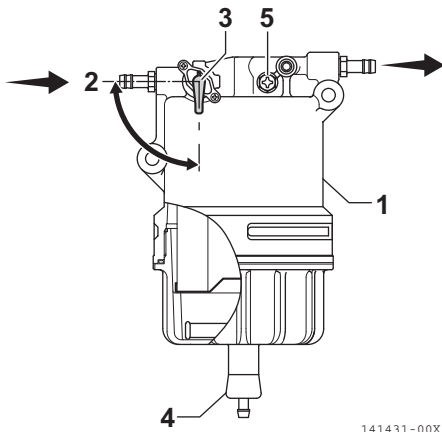

Figure 18
1. Position an approved container under the cup (1, **Figure 18**) of the water separator to collect the contaminants.
2. Close (2, **Figure 18**) the fuel valve (3, **Figure 18**).
3. Loosen the drain valve (4, **Figure 18**) and drain the contaminants. *See Drain water separator on page 82.*
4. Turn the cup (1, **Figure 18**) to the left (10, **Figure 18**) and remove the cup (1, **Figure 18**). If equipped, disconnect the sensor wire from the cup before removing the cup.
6. Remove the float ring (8, **Figure 18**) from the cup. Pour the contaminants into the container and dispose of it properly.
7. Clean the element (9, **Figure 18**) and inside cup. Replace the element if it is damaged.
11. Install the cup to the body by tightening the cup to the right (6, **Figure 18**) to 18 - 22 N·m (1.8 - 2.2 kgf·m).
13. Open the fuel valve (3, **Figure 18**).